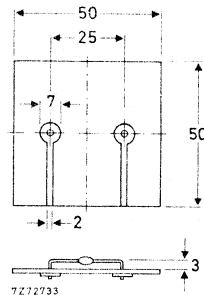

Fig. 2 Device mounted on a printed-circuit board.
2. Thermal resistance from junction to ambient; device mounted on an 1,5 mm thick epoxy-glass printed circuit board; Cu-thickness $> 40\text{ }\mu\text{m}$; Fig. 2